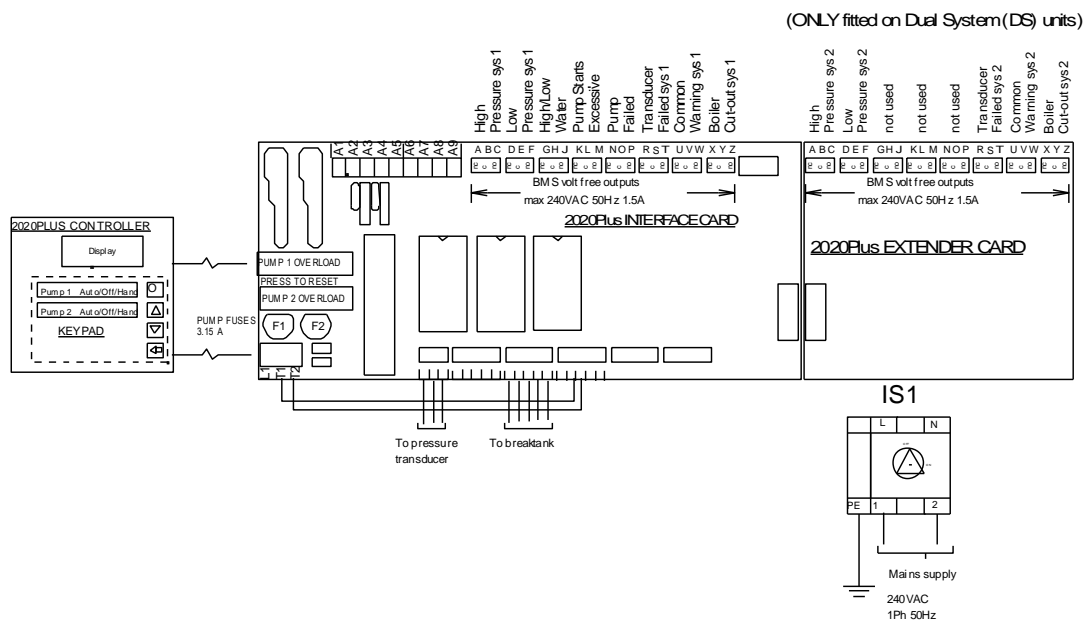

Fig 1.8 Typical Wiring connections for BMS enhanced models
- 1.3.6.3 Connect incoming electrical mains supply to identified terminals in panel (see fig. 1.8). Ensure voltages and frequency indicated on the motor nameplates and wiring diagrams correspond with supply mains data and that the supply fuse ratings are correct for the total current rating of the equipment. Note: some units require a 3 Phase supply for larger applications. Refer to wiring diagram supplied with the unit or contact AquaTech-Pressmain.